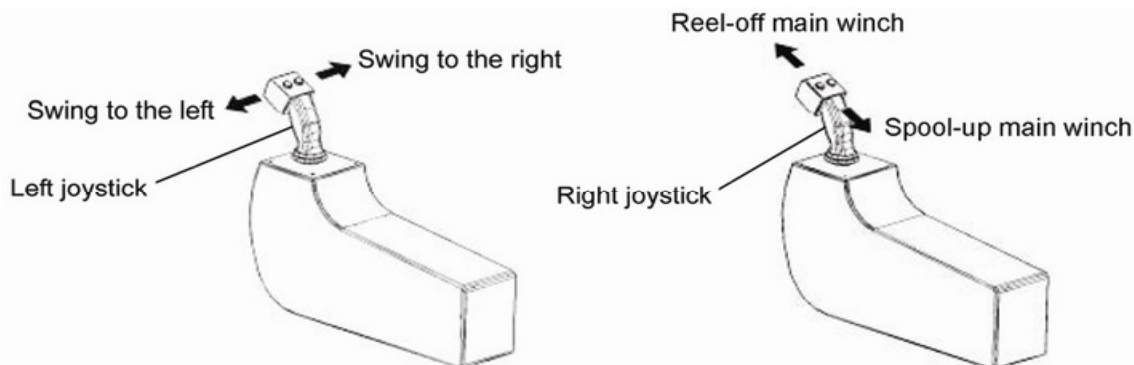

Figure 07 – 34 Swing + Main Winch
(1) You can move the boom up or down and move the main hook up or down at the same time. For this type of move, it is necessary for the operator to move the joystick two adjacent directions. For example, to move the boom and main hook down, push the right joystick up and to the right (1:30 clock position). Refer to Figure 07 – 35. The other movements on the right joystick are as follows:
- (2) Push up and to the left (10:30 clock position) - the boom moves up and the main hook moves down.
- (3) Pull aft and to the right (4:30 clock position) - the boom moves down and the main hook moves up.
- (4) Pull aft and to the left (7:30 clock position) - the boom moves up and the main hook moves down.